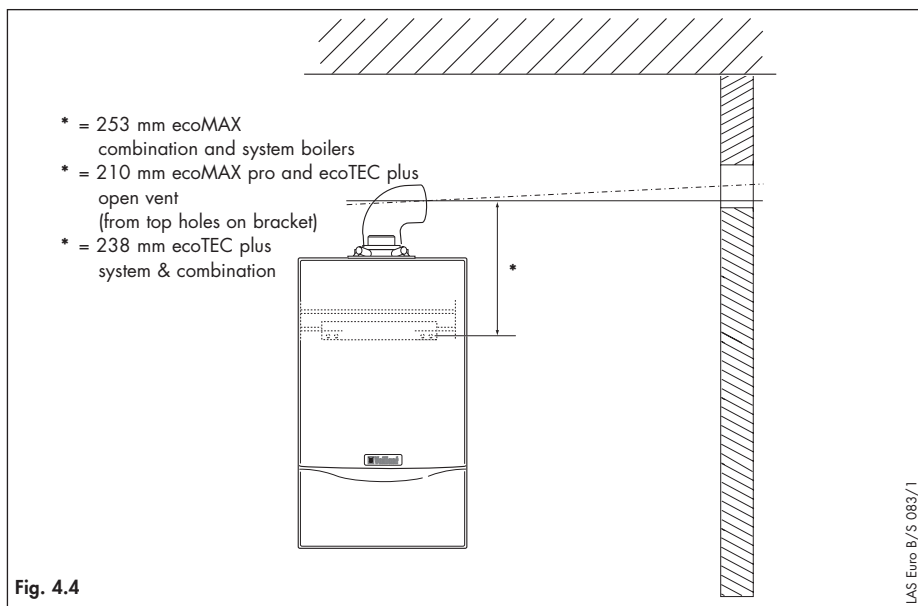

Fig. 4.4
- The position of the flue exit hole should allow the flue to be installed with an upwards slope towards the terminal of approximately $3^\circ \pm 1^\circ$, equivalent to $50 \text{ mm} \pm 20 \text{ mm}$ rise per metre of flue length. Calculate the required rise according to the flue length and mark the position of the flue exit hole (fig 4.4).